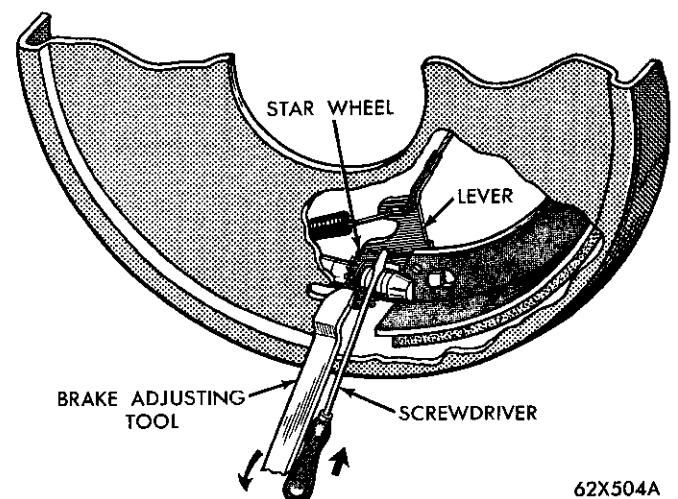

Fig. 3—Adjusting the Brakes
ment with the star wheel (Fig. 3), while holding the adjusting lever out of engagement, back off the star wheel 10 to 12 notches to insure a free wheel with no brake shoe drag.
To aid in the brake drum removal loosen the brake star adjusting wheel (Fig. 3).
(1) With the vehicle on a hoist, jack, or suitable stands, remove the rear plug from the brake adjusting access hole (Fig. 3).
(2) Insert a thin screw driver into the brake adjusting hole and hold the adjusting lever away from the notches of the adjusting screw.